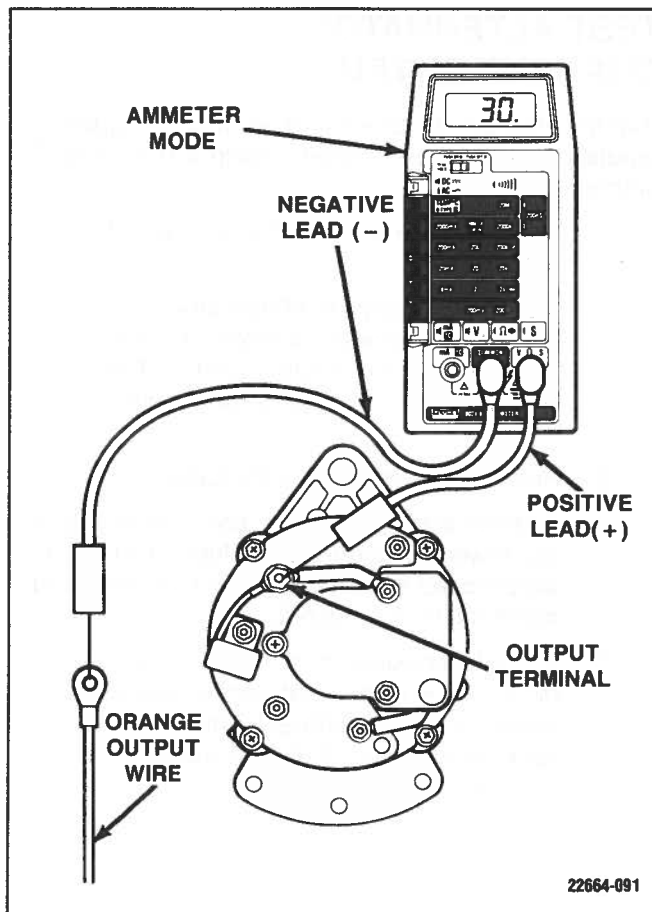

Figure 6-117. Alternator-Output Test 1
5. Turn off accessories and reinstall coil-high-tension lead. Start engine and adjust engine speed to 1500-2000 rpm. Quickly observe ammeter. Reading should be at least 30 amps. (Figure 6-117)